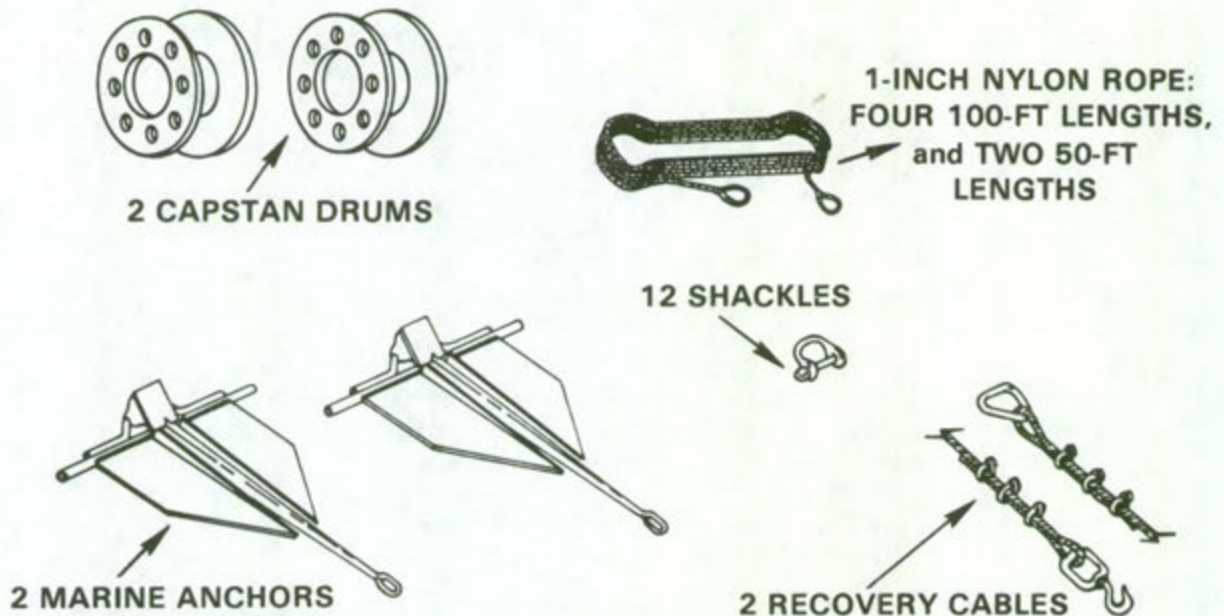

Figure 6. Capstan kit.
c. Capstan Kit (figure 6). (This kit may be ordered through your maintenance shop.) When leaving water after swimming operations, an APC may become disabled because of the steep angle of the bank, the muddy or slippery surface of the bank, or a combination of both, and cannot exit. A capstan expedient can be used for a self-recovery. The capstan kit consists of one pair of capstan adapters that bolt to the drive sprocket hub, one pair of capstan drums with mounting tee bolts, nylon rope, and one pair of ground anchors. Normally, the capstan adapters are permanently mounted to the drive sprocket hubs with the metal shrouds plates cut away.